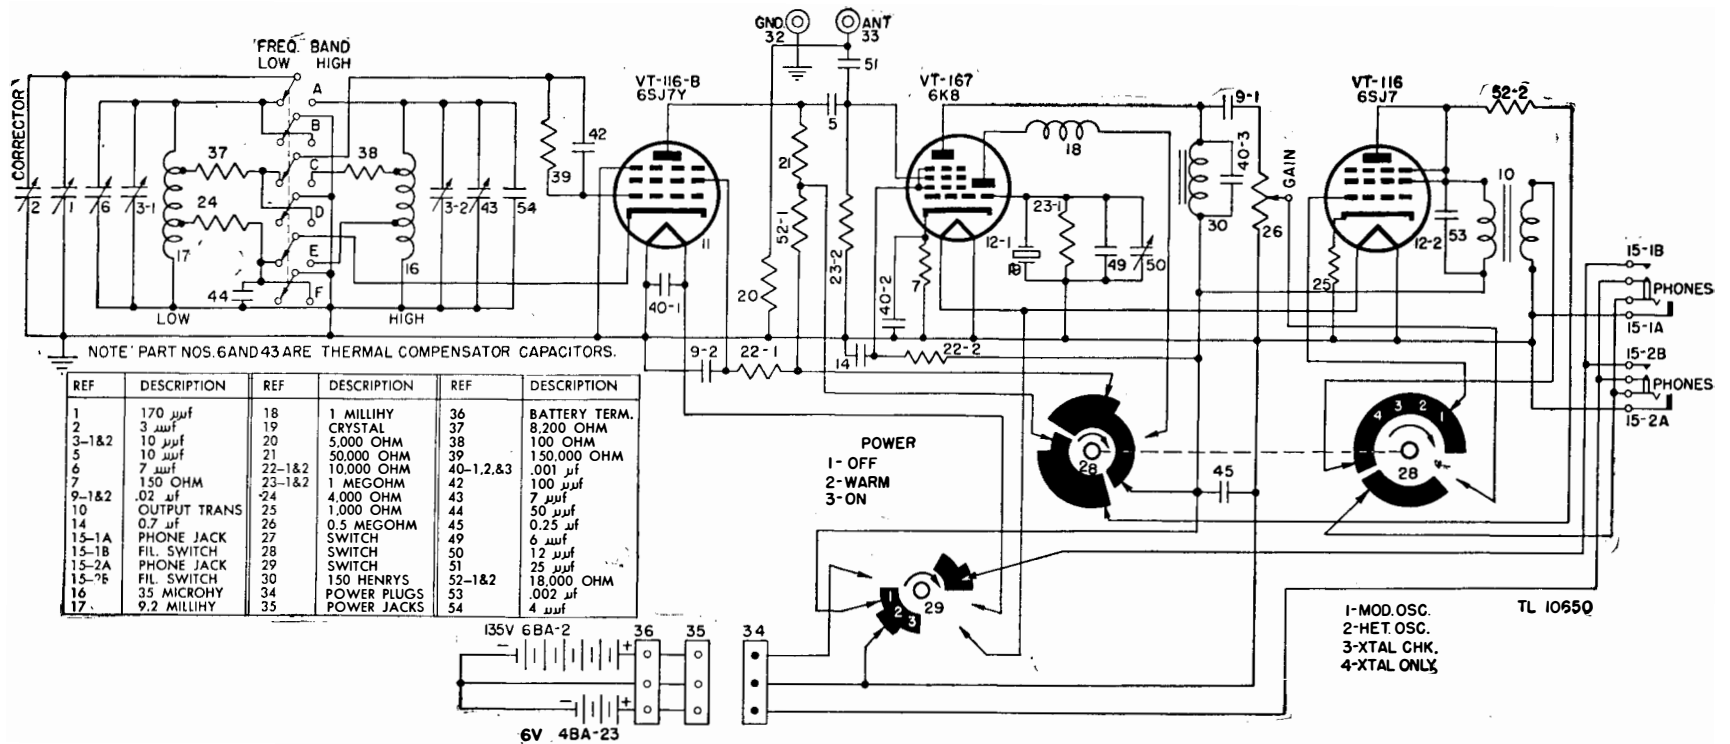

Figure 99. Frequency Meter BC-221-A7, schematic diagram.
ulator circuit. The POWER switch has three positions instead of the two positions formerly used. At the third position of the POWER switch, WARM-UP, only the filament of variable frequency oscillator Tube VT-116-B (6SJ7Y) draws current. (See figs. 99 and 100.)
e. OSCILLATOR FUNCTION. (1) The variable frequency oscillator circuit is in operation whenever the POWER switch 29 is in the ON position, the operation switch 28 is in the MOD. OSC., HET. OSC., or XTAL CHK position, and a headset is plugged into a PHONES jack. (See figs. 99 and 100.)
328. Power Supply Circuit (figs. 99 and 100)